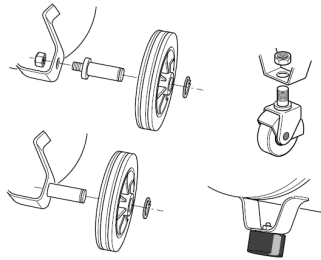
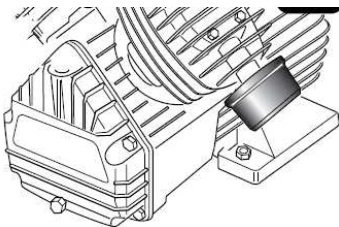

Fig. 3: Packaging
Fig. 5: Installation
- Fit the wheels and anti-vibration protection (Fig.3), remove the plug from the compressor head and fit the intake filter if it is not already fitted (Fig.5).